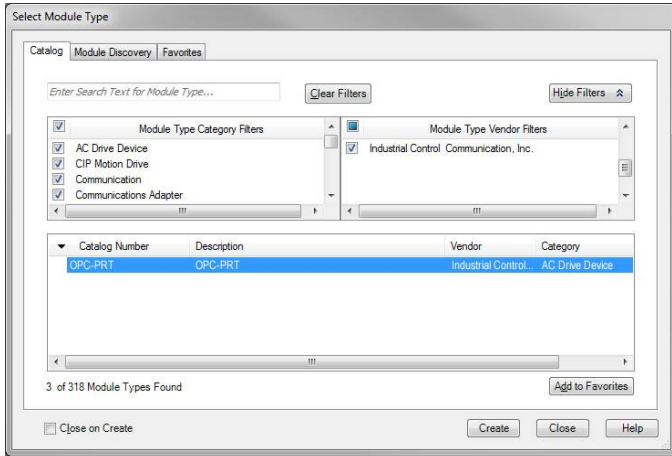

Figure 28: Adding a New Interface Card Module
- 11) Find the interface card in the "Select Module" dialog box as shown in Figure 28.